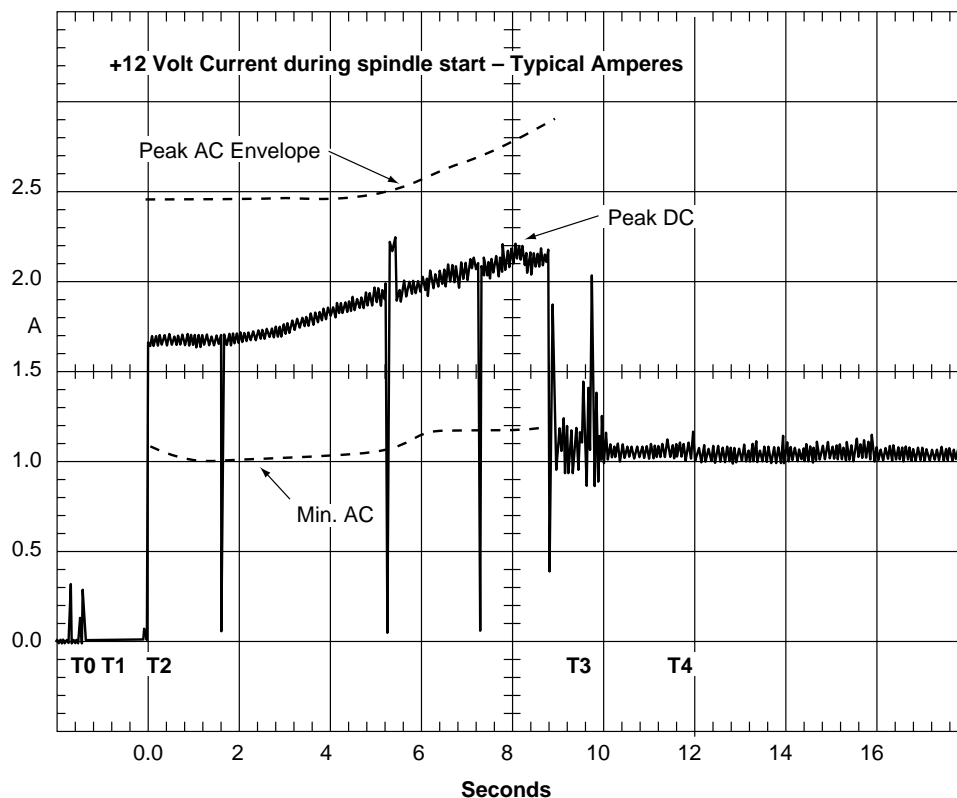

Figure 3. Typical Cheetah 36 family drive +12 V current profile
- [3] See +12 V current profile in Figure 3.
Figure 3 identifies the drive +12 V current profile. The current during the various times is as shown: